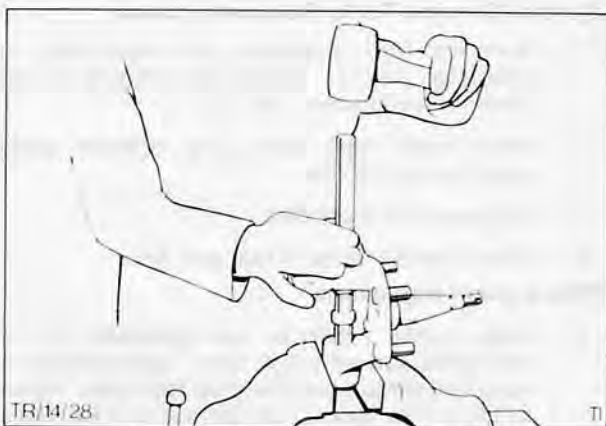

Fig. 28. Replacing stub axle bushes
6. Using Tool No. 14 011, fit new bush to stub axle ensuring bush is pushed fully home, Fig. 28.